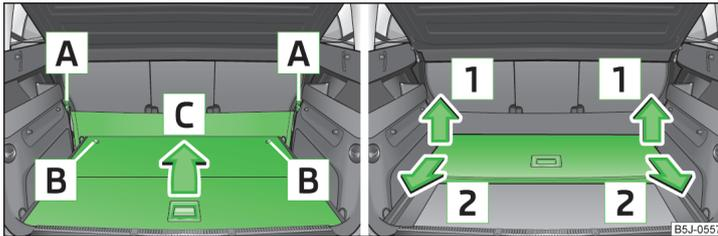

Fig. 69 Fold up variable loading floor/remove
- Unhook the loops **A** » Fig. 69 of the elastic partition from the fixing points.
- Lock the variable loading floor by turning the locking bolts **B** » Fig. 69 to the right through around 180°.